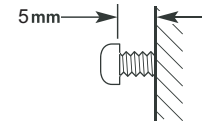

Fig. 8
- Using a 9mm drill bit, enlarge the pilot holes and insert the plastic wall anchors (BB) into the wall along the line as reference point. Insert screws and leave a 5mm (Fig.8) gap between the wall and the back of the screw head to slide the range hood into place. Ensure the screws and anchors (AA and BB) are parallel with the horizontal line.